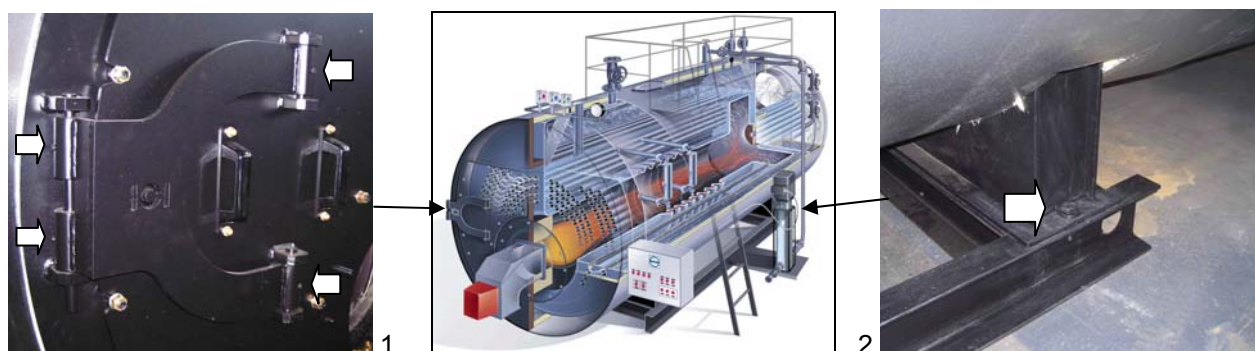

Fig. 9
- Loosen the anti vibration bolts which are fitted on the front doors hinges (1 Fig. 9) before opening the doors.
- **Remove the holding bolts from the rear leg of the boiler base (2 Fig. 9) after positioning the boiler and in any case before first start-up, in order to allow boiler expansion during operation.**